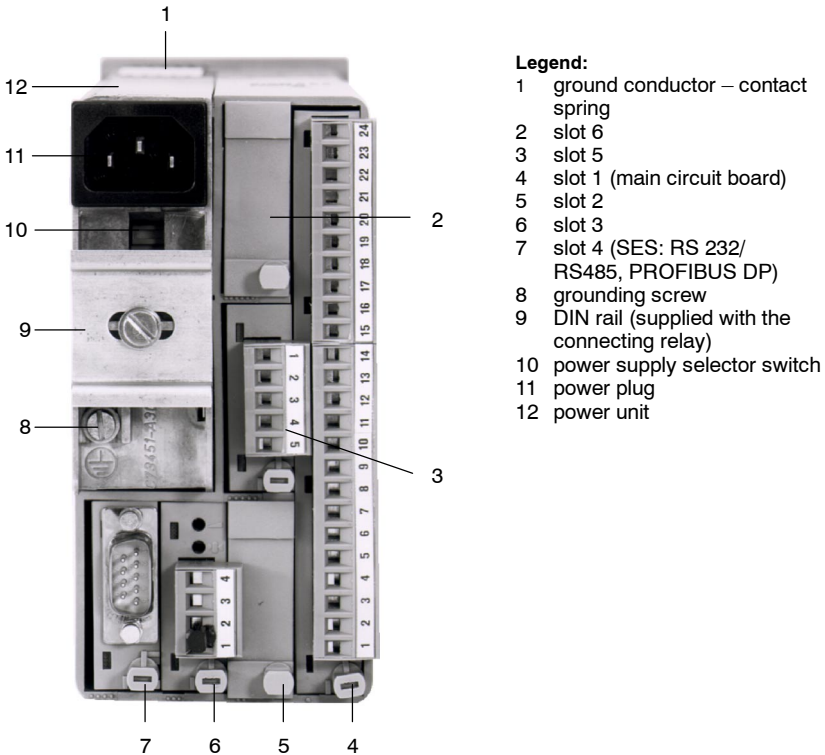

Figure 3 Rear view, slots and connection plugs
- 3 Change the settings on the main circuit board (see Figure 3)